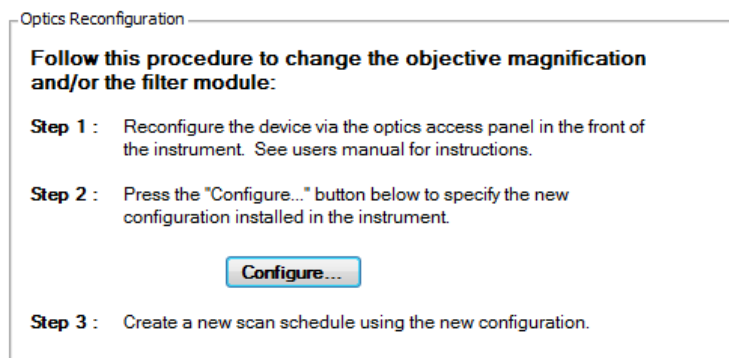

Figure 27. Optics Reconfiguration Screen
1. As mentioned above, only ZOOM Users with administrative privileges can reconfigure the optics. The administrator should log in and select the Administer tab  Administer on the left side of the screen, under Task List. The first tab on the Administer screen is “Optics Reconfiguration”, which displays a box in the center of the screen showing the 3 steps required to change the objective magnification (refer to Figure 27).